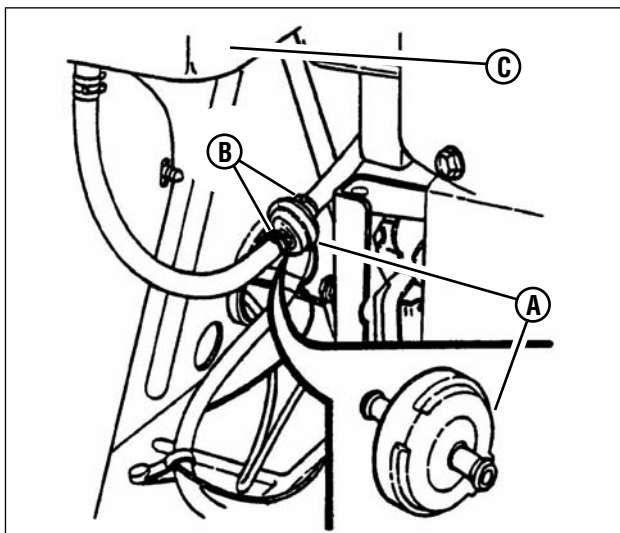

Figure 30: Replacing the fuel filter
IMPORTANT: To stop the flow of fuel, the fuel tank (C, Figure 30) may be removed from the bracket and set on the floor so the fuel level will be below the filter. Refer to the section entitled “REMOVING FUEL TANK”.
1. Remove the hose clamps (B, Figure 30) from the fuel filter (A).